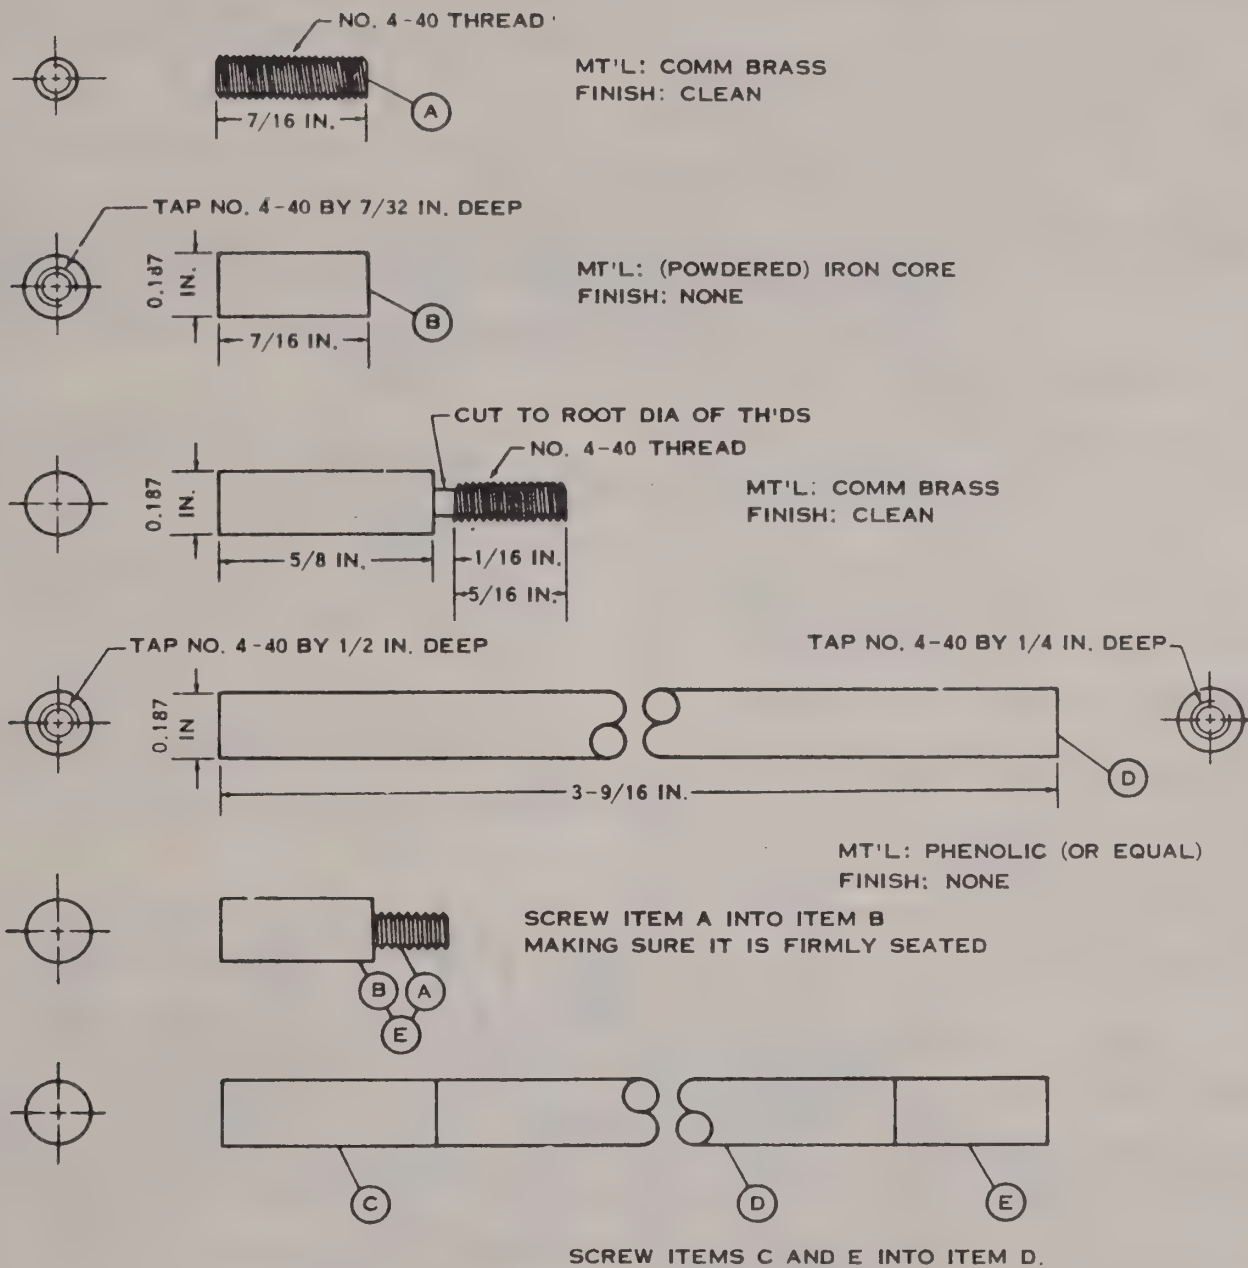

Figure 3-10 Tuning Wand Fabrication Details.
(1) Screwdriver, nonmetallic.
(2) Slot Screwdriver.
(3) Tuning Wand. See Figure 3-10.
(3) Tuning wand. See Figure 3-10.